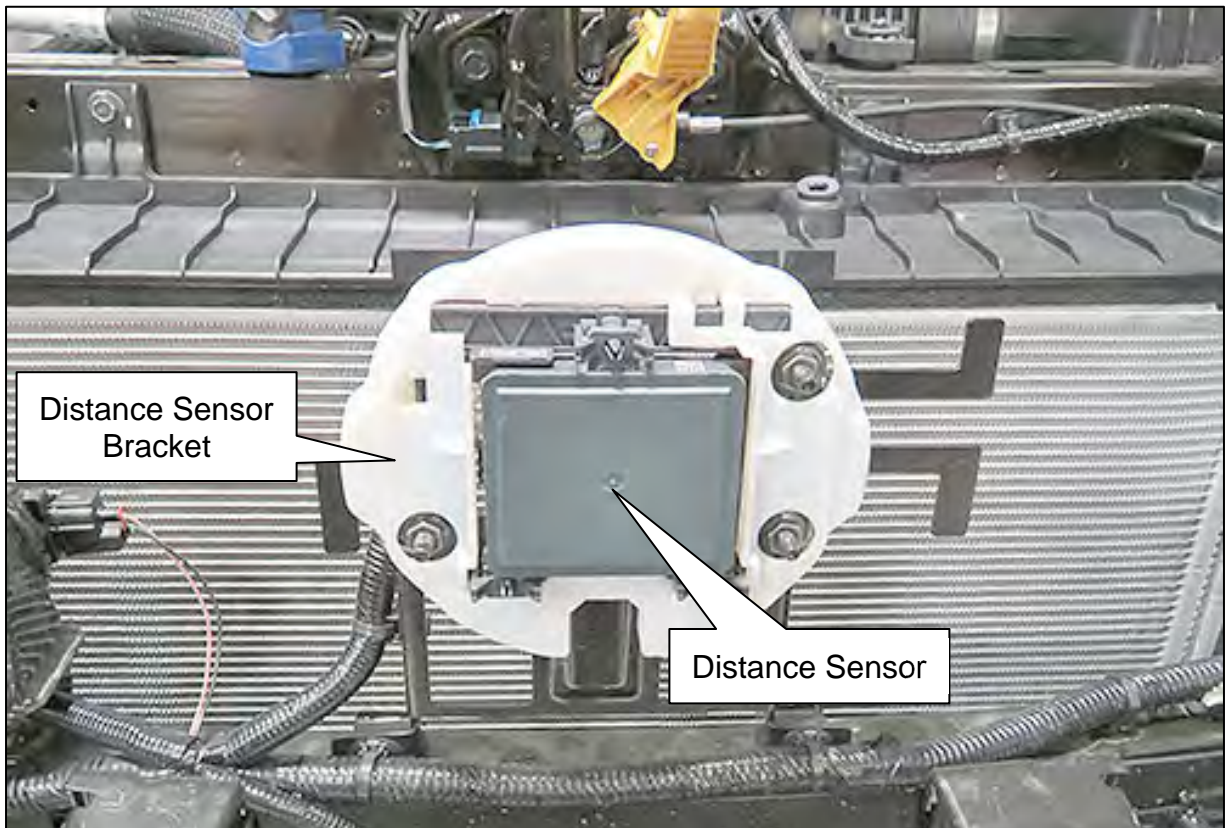

Figure 2
3. Snap the Distance Sensor Bracket (Figure 2) onto the Distance Sensor.